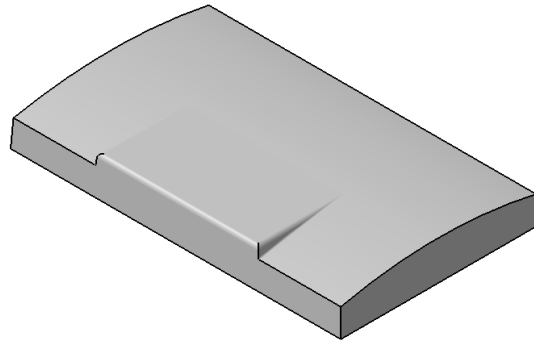

Figure 6-100 The model after filleting the second set of edges
6. Choose the **OK** button from the **Edge Fillet Definition** dialog box. The model, after filleting the second set of edges, is shown in Figure 6-100.